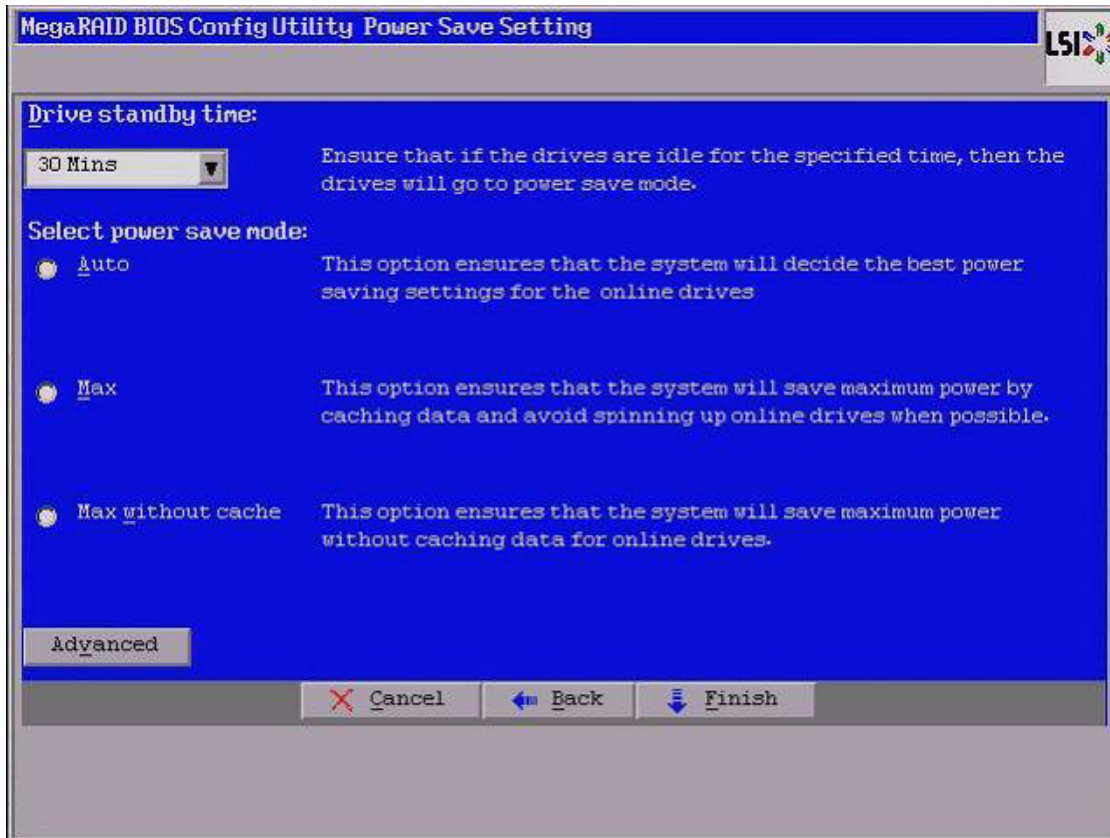

Figure 131 Power Save Setting - Power Save Mode
You can select the drive standby time and the Power-Save mode by selecting the **Auto**, **Max**, and **Max without cache** options in Figure 131.
1. Click the **Advanced** button in the **Power-Save Setting** dialog as shown in Figure 131.